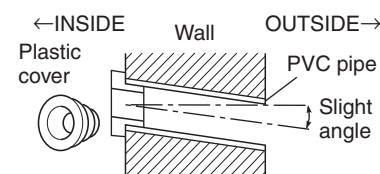

Fig. 3-156
- (6) Place the plastic cover over the end of the pipe (for indoor side only) and insert in the wall. (Fig. 3-156)